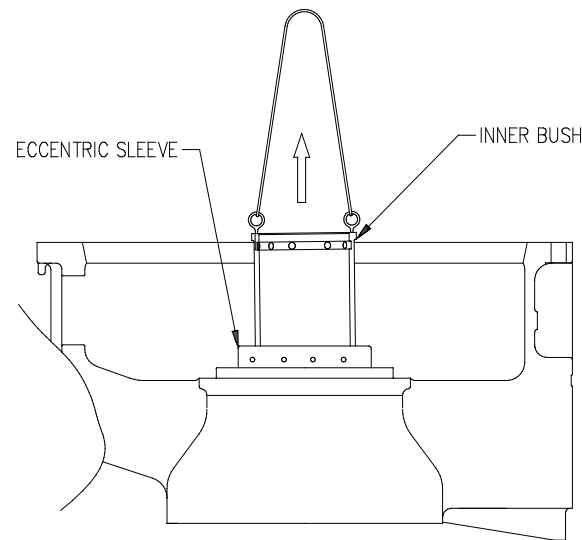

Fig. 6.7.3
8. When 3 to 4 hours have passed, remove the cover and the remains of the dry ice. Fix eye-bolts to the inner bushing and remove it. (Fig. 6.7.3)